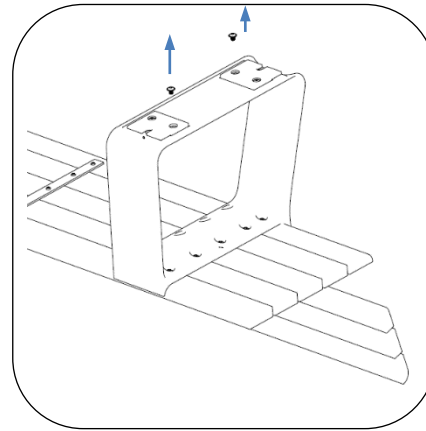

Fig. 2 – Remove screws from bench glides for embedding
2. Remove one screw from each glide pad as shown in Figs. 2 or 5.